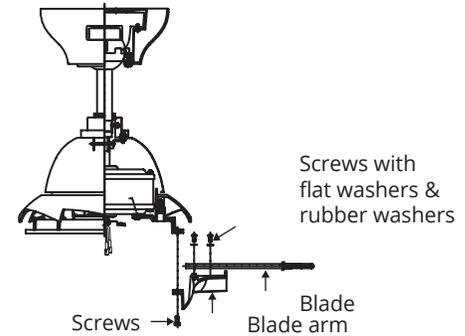

FIGURE 18
1. Attach the blade to the blade arm using the screws with flat washers and rubber washers as shown in Fig. 18.
2. Fasten blade assembly to motor using the screws supplied. (Fig. 18)